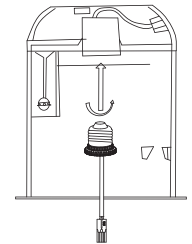

Figure 1
**STEP2:** Screw E26 socket adapter into socket in housing. (Figure 1)